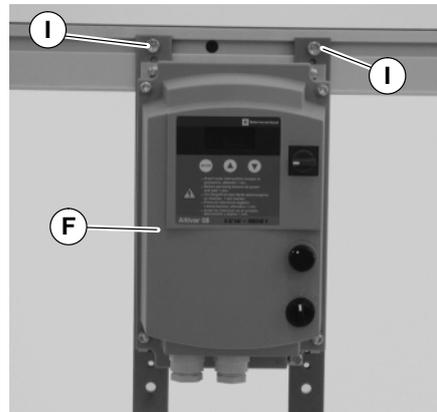

Figure 5
3. Attach controller (F of Figure 5) to conveyor with screws (I).